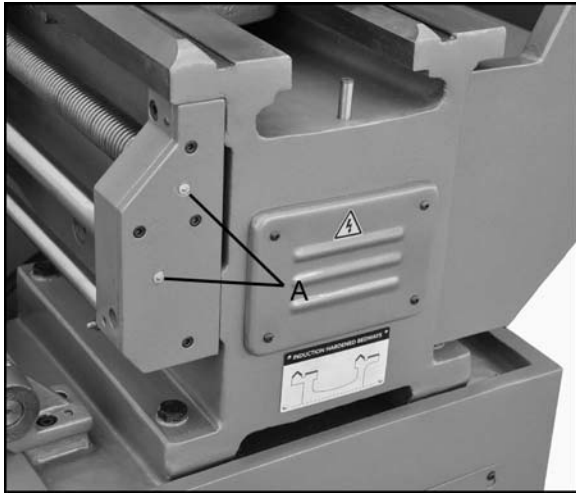

Figure 11
4. **Leadscrew and Feed Rod** – Daily lubricate two ball oilers on the right side bracket (A, Figure 11) with SAE 20W once or twice per shift.